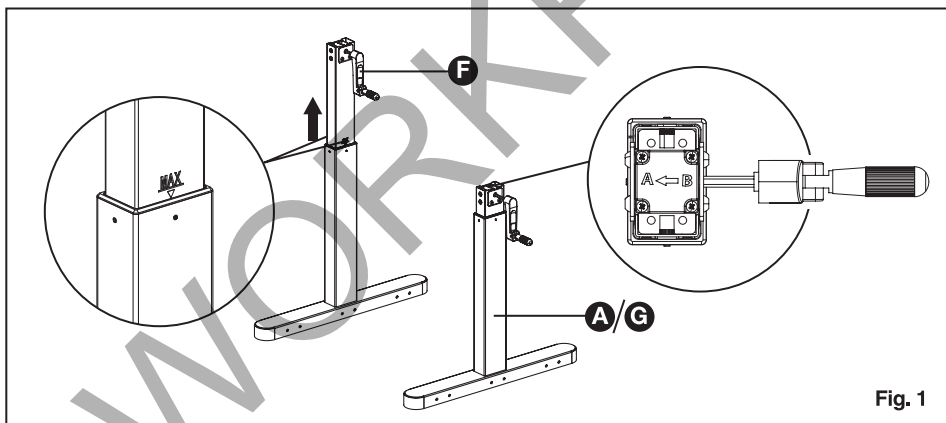

Fig. 1
- Determine the front and back of the wood top (C) before starting. The front of the wood top (C) has the WORKPRO badge on the edge.
- Unfold the handle of the crank handle (F).
- Insert the crank handle (F) into the hole marked with symbol "B" on the top of one leg (A/G).
- Turn the crank handle (F) clockwise to adjust the leg (A/G) to the maximum height. To avoid damage, do not keep turning the crank handle (F) once the symbol line below "MAX" appears on the leg (A/G) (Fig. 1).
- Remove the crank handle (F) after adjusting the height of leg(A/G).